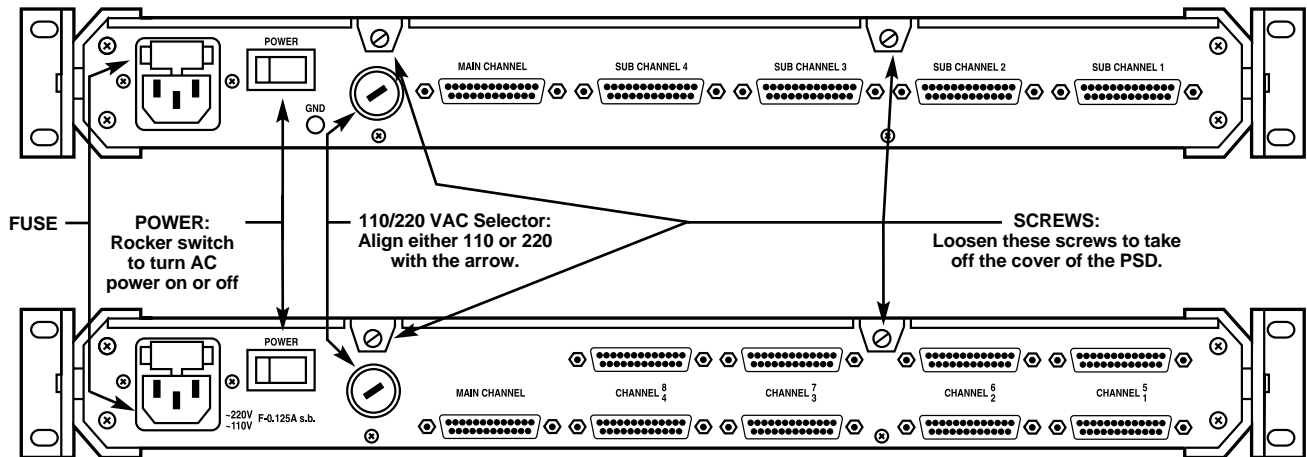

Figure 5. The back panels of the PSD-4 (top) and the PSD-8 (bottom).
- Unplug the unit and check the fuse (see Figure 5 for location of the fuse).